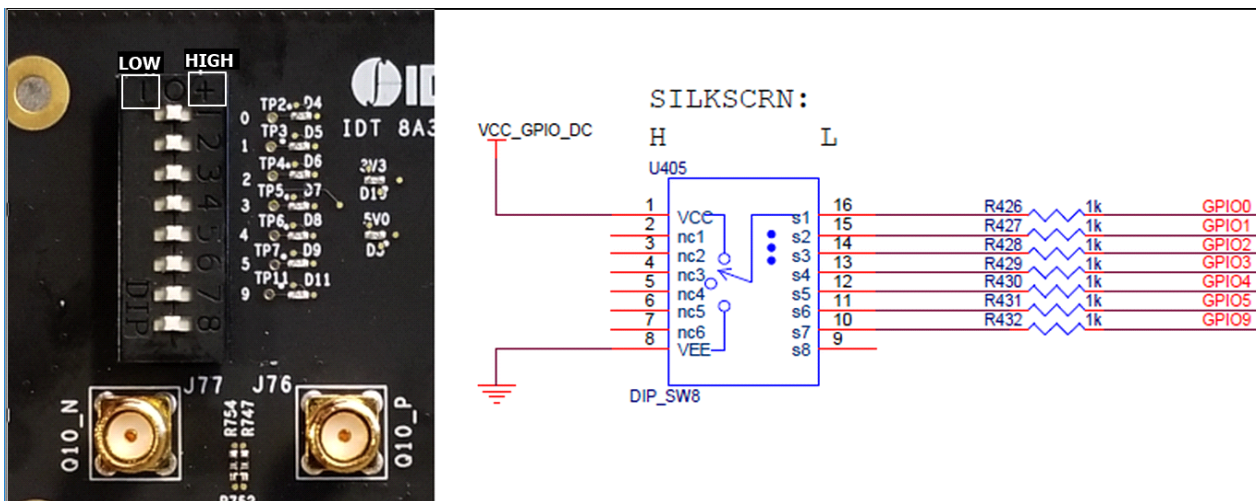

Figure 4. GPIO Setting and Status Display Area
An 8-bit dip switch sets the logic levels for seven GPIOs (GPIO0-5 and GPIO9). The GPIO levels for each setting and the corresponding LED state are listed in the following table (see picture and labels in Figure 4).
*Note:* In order to set GPIO9 to “High”, the switch for GPIO9 must be set either to the “+” (high) position or the center position (see Figure 4).